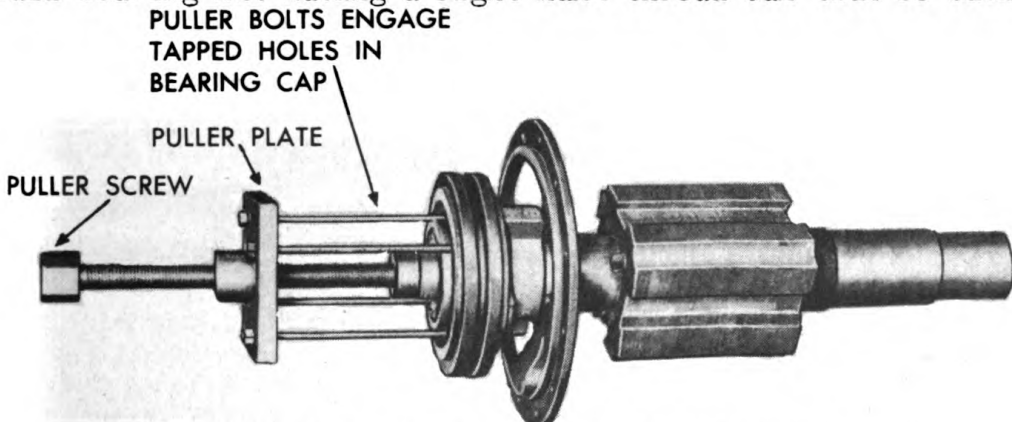
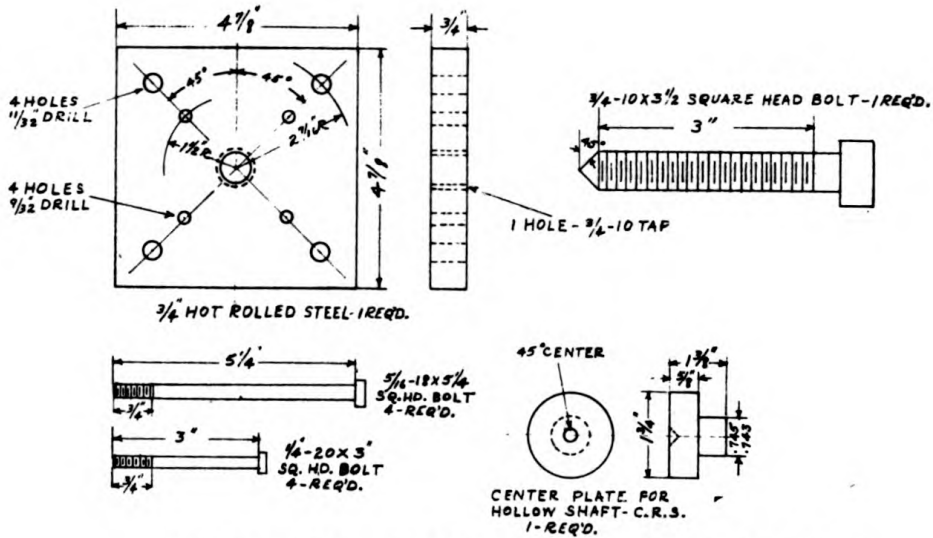
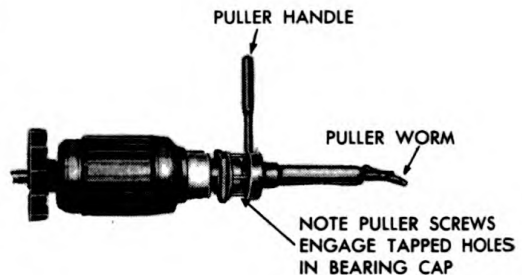

Figure 297. Removing Rotor Ball Bearing.
Figure 298. Diagram Special Bearing Puller.
Figure 302. Removing Exciter Ball Bearing.
off, using a spanner wrench. Pull the ball bearing from the shaft using a puller similar to that shown under Figure 297, or Figure 298. It will be noted that this puller has four bolts which pass through the puller plate and engage the four tapped screw holes in the ball bearing cap.
2. The ball bearing can be removed with a puller similar to that shown under Figure 302, or Figure 298. The four bolts which pass through the head of the puller plate should engage the tapped screw holes in the ball bearing cap. The ball bearing is held on the shaft by a press fit and a retainer collar which presses against the front side of the ball bearing.